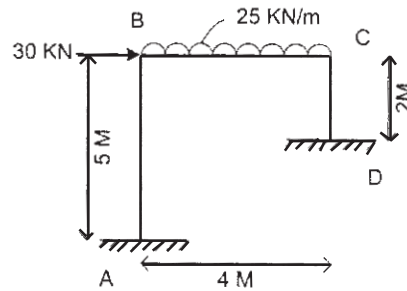

Fig. Q.2
**Q2)** Analyse the portal frame loaded as shown in fig Q.2 by Slope Deflection Method & Also draw SFD, BMD & Elastic Curve [18]